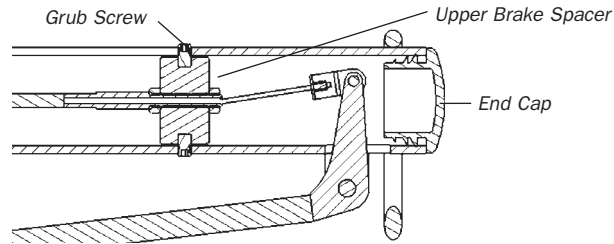

Figure 9.6.5.3 Upper Brake Spacer fitment
76. Align the slot around circumference of Upper Brake Spacer with the Grub Screw tapped holes in the TRAM Arm and install two Grub Screws from the Kit. (Ensure the longitudinal slot in the Upper Brake Spacer at approximately 90° to the Grub Screw tapped holes). See Figure 9.6.5.3.